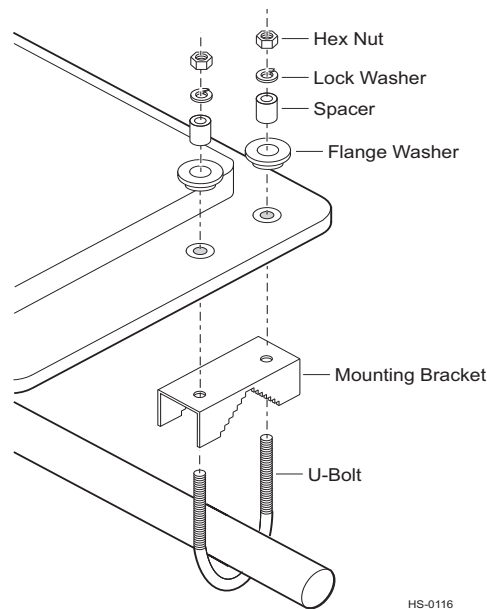

Figure 2 AA3152 Mounting Hardware
2. Place the small side of each flange washer into each of the four (4) mounting hole on the radome. The large flat surface of the flange washer faces out. The U-bolt fits through the center of the flange washer. Place one (1) spacer, one (1) lock washer, and one (1) hex nut over each end of the U-bolt, but do not completely tighten the nuts. Repeat for the other U-bolt. Figure 2 shows the correct placement order of the mounting hardware.